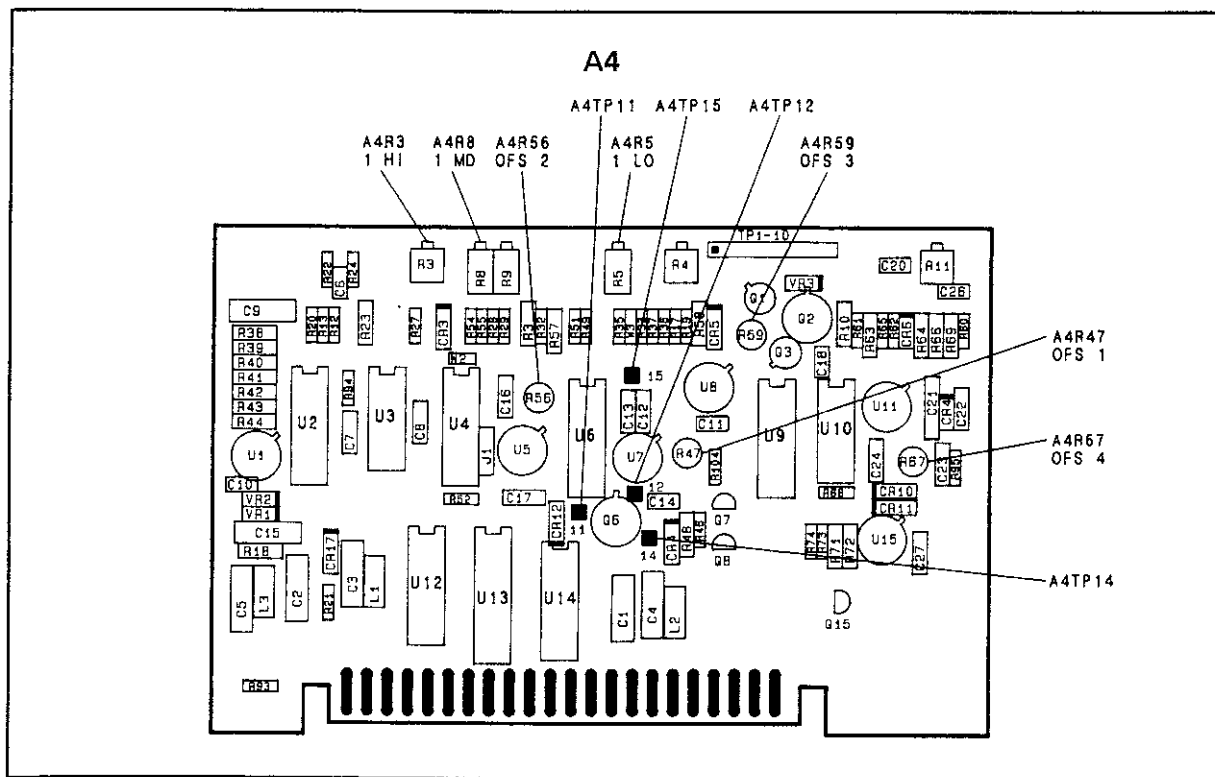

Figure 5-13. A4 ALC Board Adjustment Locations
2. Float the ground on the digital voltmeter and measure the voltage between A4TP12 and A4TP14 (Figure 5-13). Adjust A4R47 OFS 1 (offset 1) for $0.000V \pm 0.001V$.